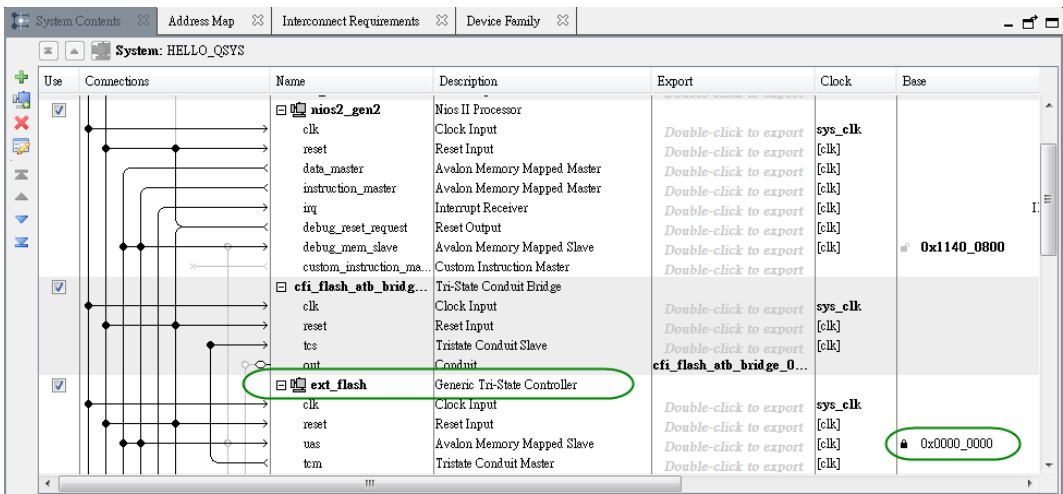

Figure 4-5 Flash Controller Settings in QSYS
1. QSYS should include a Flash controller for the CFI Flash on the development board. Please ensure that the base address of the controller is 0x00, as shown in **Figure 4-5**.